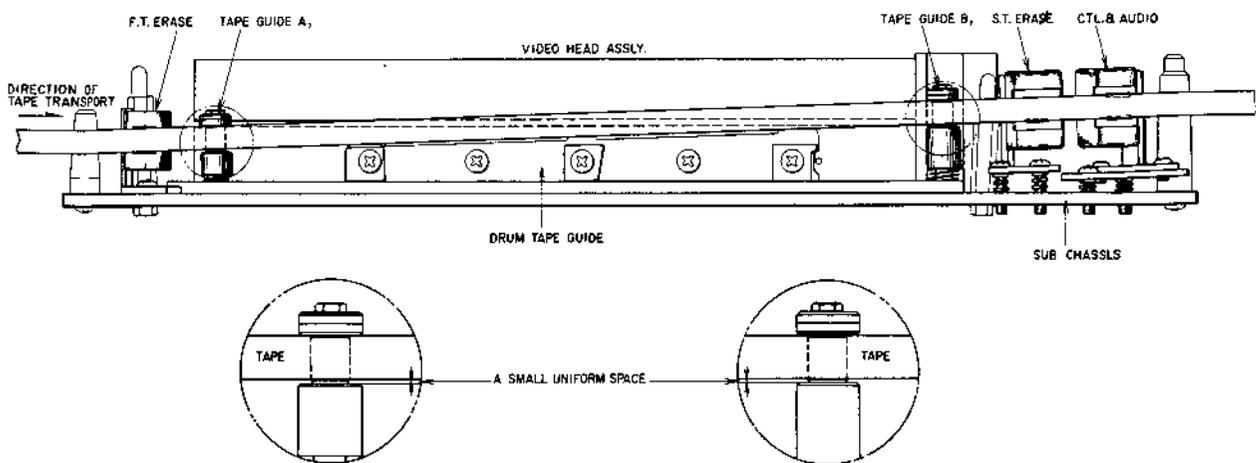

Fig. 1-21
- d) In case RF Envelope amplitude fluctuation exists even after the above adjustments have been made, because tape travel is causing vertical movement of the tape guide band on the outer circumference of the head drum, adjust the angle of sub pinch roller or the forward and backward slant of the side track erase head and/or CTL head so that the tape contacts the upper part of tape guides "A" and "B" as shown in Fig. 1-21 and runs smoothly on the tape guide band. When making this adjustment, at the same time adjust tape guides "A" and "B" to obtain a square RF Envelope. RF Envelope fluctuation must be within 1% of peak to peak value.